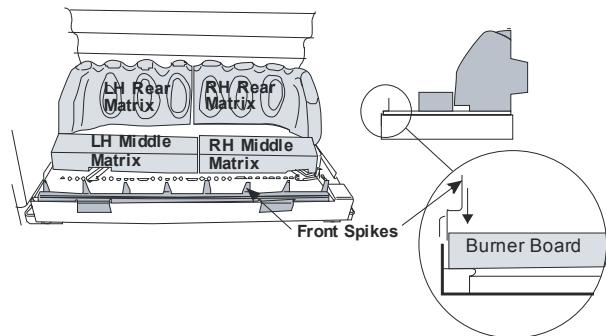

Figure 33
1. Having unpacked all the fuel-bed components proceed with placing the **rear matrix** pieces centrally and to the rear of the burner tray ensuring that it touches the ceramic fire-back (see **Figure 33**).
2. Place the **middle matrix** pieces onto the burner board so that they key into the triangular depression on the board (see **Figure 33**).
3. Insert the front fuel spike between the board and the front of the metal tray (see **Figure 33**).